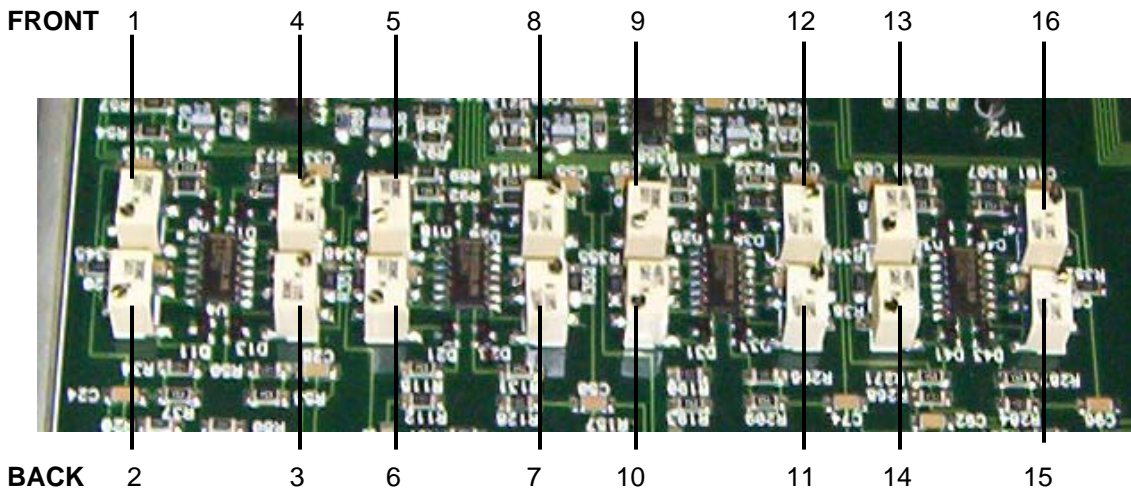

Figure 8-14 – Audio Input Potentiometer layout
2. Locate the audio input potentiometer to be adjusted. Refer to Figure 8-14: Audio Input Potentiometer Layout to identify the potentiometer that corresponds to the audio input.
4. Measure the resistance of the potentiometer associated with the audio input being adjusted; Refer to Figure 8-14 - Audio Input Potentiometer layout;